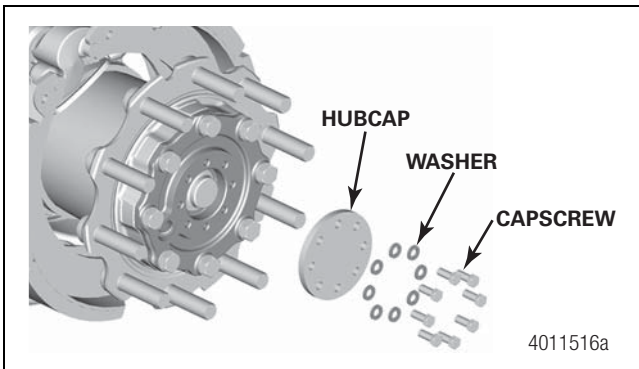

Figure 7.24
6. Install the hubcap and tighten the capscrews to 35-50 lb-ft (47-68 N•m). Figure 7.24.